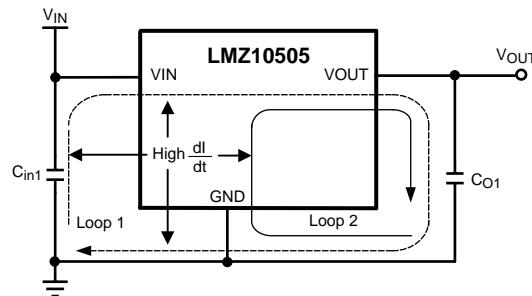

Figure 29. Critical Current Loops to Minimize
From an EMI reduction standpoint, it is imperative to minimize the high di/dt current paths. The high current that does not overlap contains high di/dt , see Figure 29. Therefore physically place input capacitor (C_{int}) as close as possible to the LMZ10505 VIN pin and GND exposed pad to avoid observable high frequency noise on the output pin. This will minimize the high di/dt area and reduce radiated EMI. Additionally, grounding for both the input and output capacitor should consist of a localized top side plane that connects to the GND exposed pad (EP).